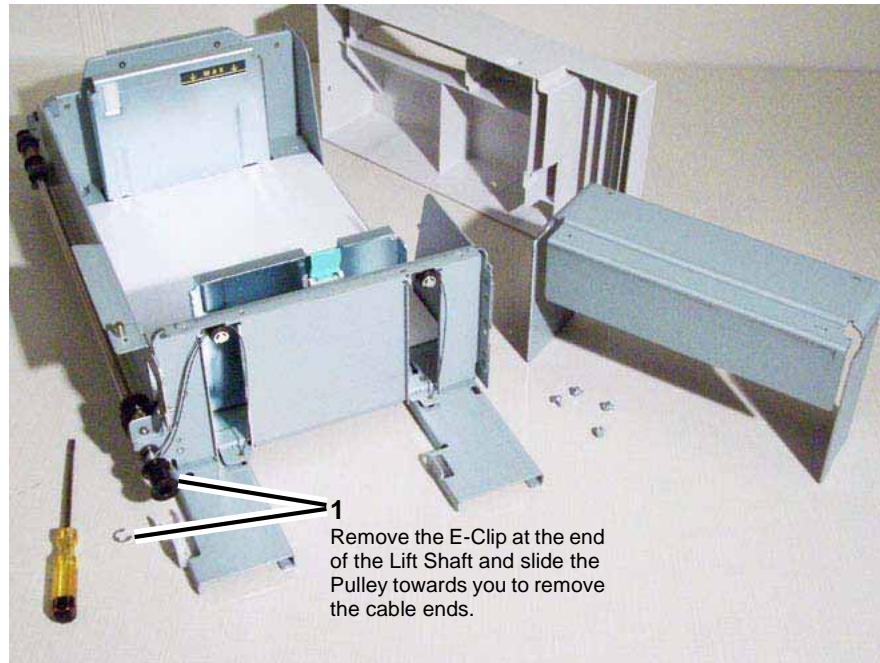

Figure 1 Removing Front Left and Right Cable ends from Lift Shaft
- a. Remove (4) securing screws.
4. Remove the cable ends from the Lift Shaft. Figure 1
- b. Slide the Pulley to the front (towards you) to reveal the (2) cable ends.